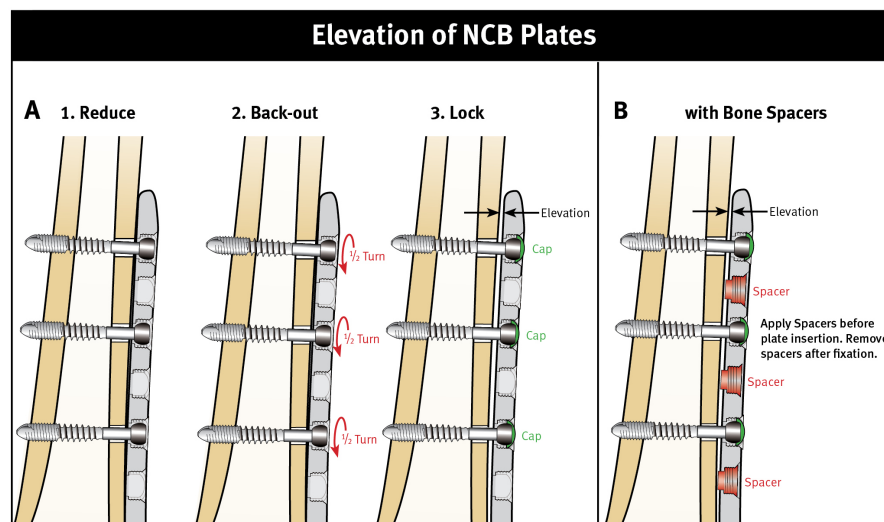

Fig. 26
**NOTE:** If *NCB* Spacers are not used, and the plate is directly adjacent to the bone, the *MotionLoc* Screws should be backed out ½ turn to provide a 1mm gap between the plate and the bone (Fig. 26).